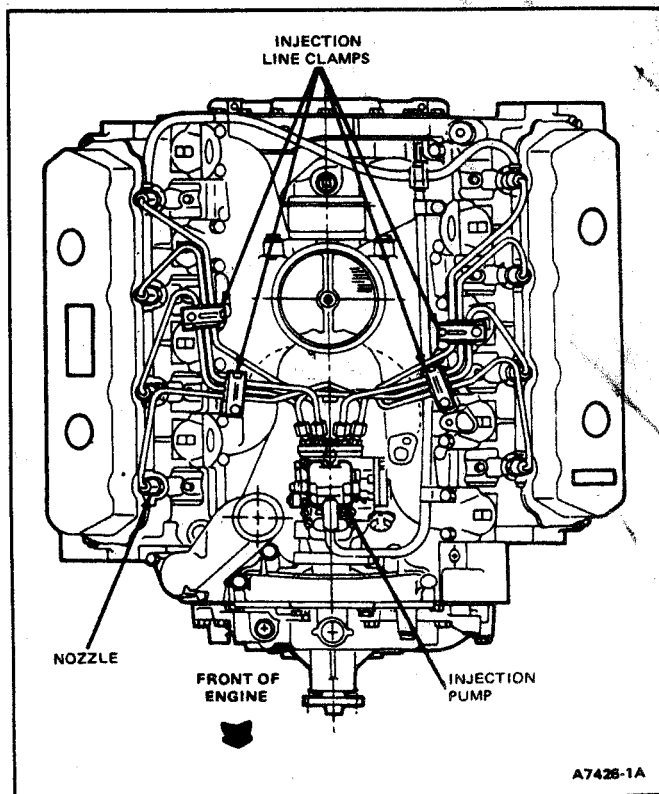

FIG. 53 Injection Line and Clamp Installation
9. Remove fuel line clamps from fuel lines to be removed (Fig. 53).
7. Install fuel line retaining clamps and tighten to specification (Fig. 53).